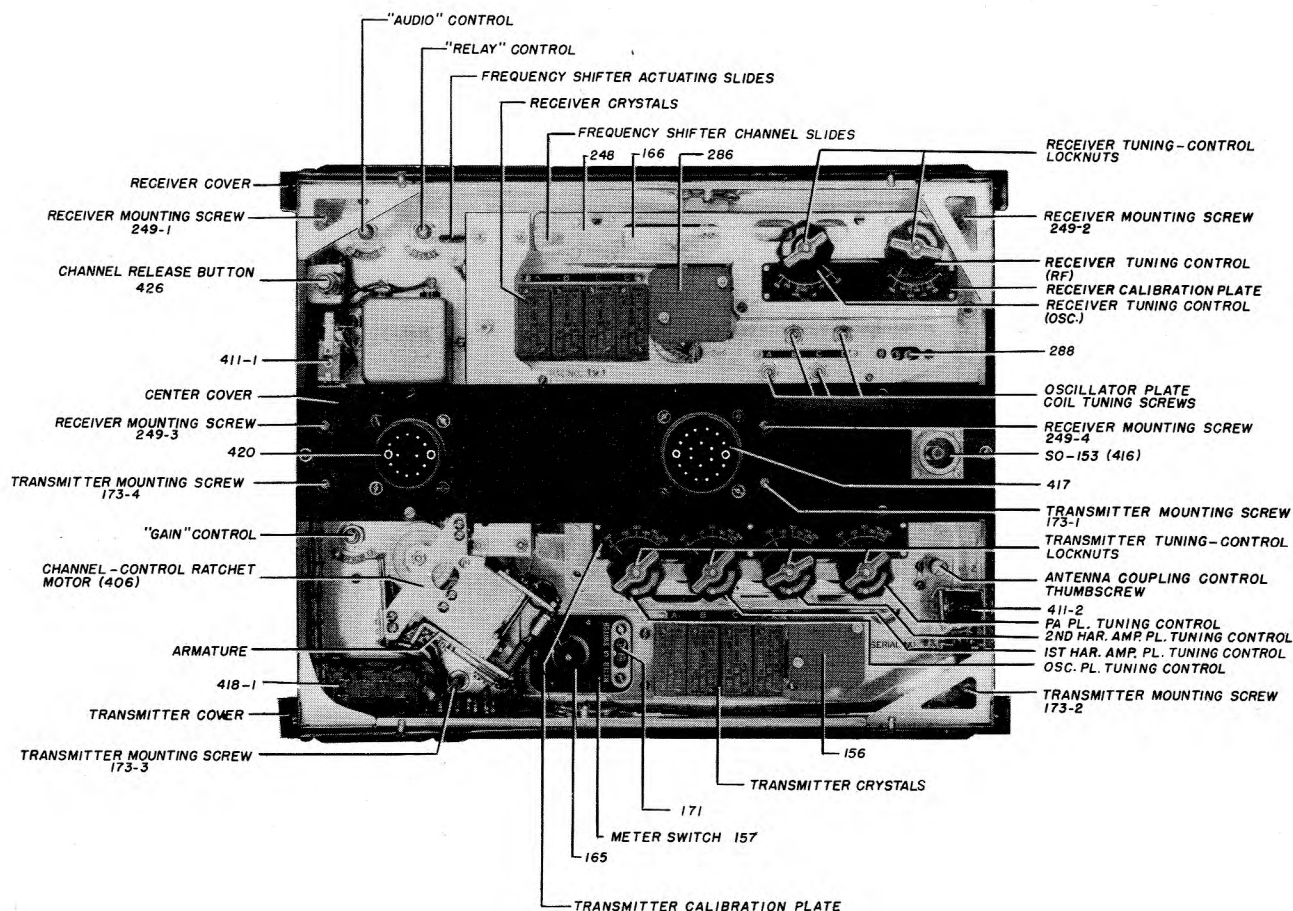

FIGURE 10—RADIO SET SCR-522-A, TRANSMITTER-RECEIVER ASSEMBLY
**NOTE:** When using Test Equipment IE-19-A for aligning the channels of Radio Set SCR-522-A, the radio set should be installed in the aircraft and connected for operation by means of Radio Control Box BC-602-A. Refer to Figure 10 for location of the tuning and adjustment controls on the transmitter, receiver, and rack of Radio Set SCR-522-A.
the crystal sockets. Plug the cord of Test Set I-139-A into the two-prong transmitter test-milliammeter socket 171 located on the right side of the transmitter "METER SWITCH" (see FIGURE 10).
(e) If the test set reading is more than 0.75, slide the antenna-coupling control (see FIGURE 10) to the right until the reading is less than 0.75.
(1) Test Equipment IE-19-A and a headset or an output meter are required for receiver tuning. Refer to FIGURE 10 for location of tuning and adjustment controls of Radio Set SCR-522-A.
(2) A receiver crystal is identified by the fundamental frequency (kc) which appears on the crystal nameplate.
(b) Connect Cord CD-477 to the "R.F. OUTPUT" socket on the signal generator and to the antenna socket, Socket SO-153, on Rack FT-244-A (see FIGURE 10). Connect Test Set I-139-A to the signal generator "METER" socket.